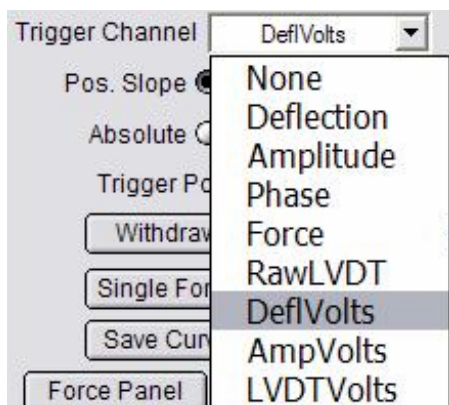

Figure 21: Trigger Channels
- ✓ In Force Tab (Figure 9 or 22)- Set Trigger to DeflVolts (Figure 21);
▪ Once k is determined, the trigger channel can be switched to deflection (or Force) from the pull down menu, and a distance (or Force) value can be entered (if you are comfortable with this dimension). Figure 21 shows all channels you that can be selected for a trigger point:
✓ Activate it by choosing what channel you want it to trigger on (Figure 21); (for example, I like to use the 'deflection' channel which will be in nm; alternatively, you can choose DeflVolts, which will be in Volts, or Force in Newtons)